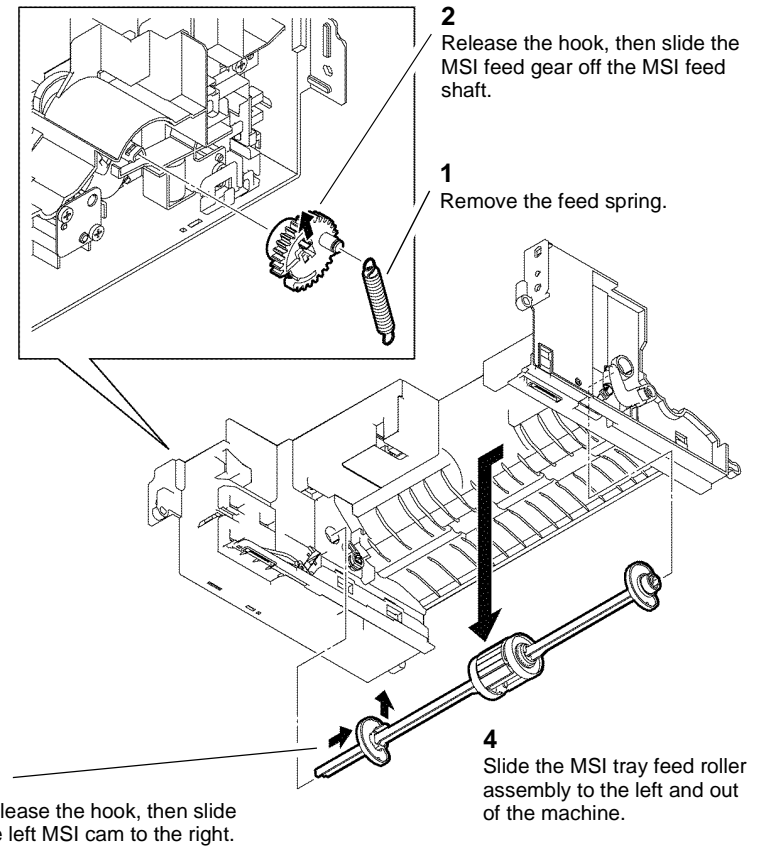

Figure 1 MSI tray feed roller assembly
- Remove the MSI tray feed roller assembly, Figure 1.